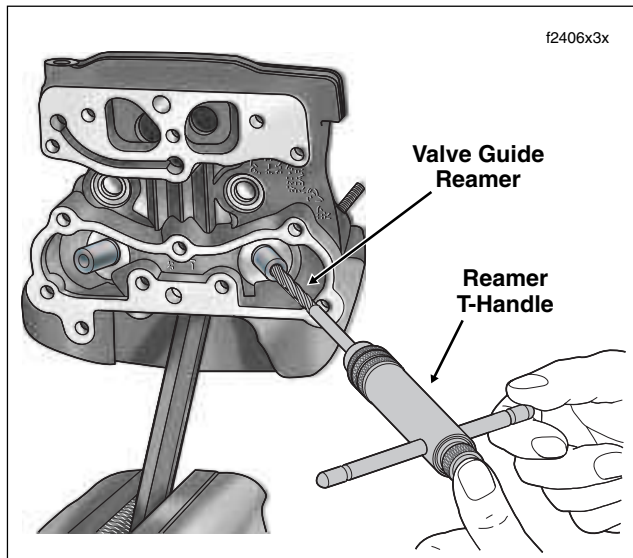

Figure 3-72. Ream Valve Guide Bore
- c. Placing thumb on drive socket of reamer T-handle, apply slight pressure on reamer while rotating in a clockwise direction. See Figure 3-72. Squirt additional lubricant onto reamer and into guide as necessary.